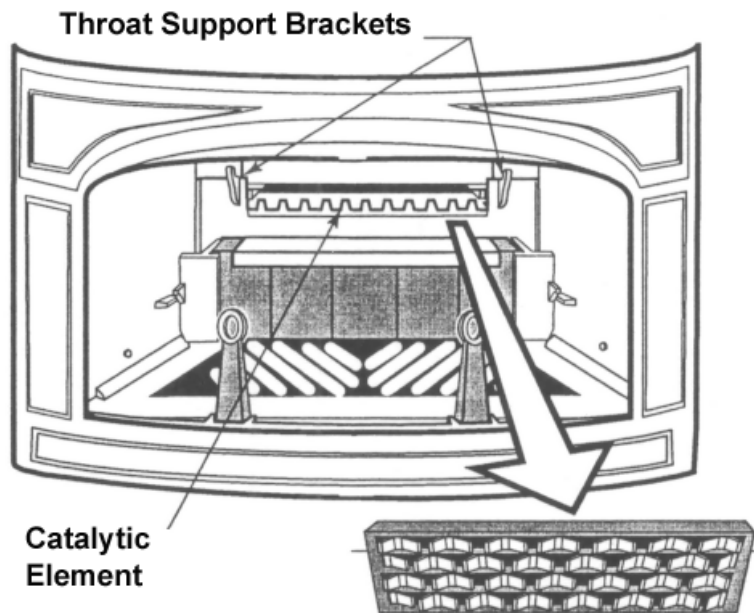

Fig. 1 Remove Throat Baffle
3. Remove the throat baffle by lifting straight up and disengaging the support brackets on the lower fireback. Take it out of the stove. See Fig. 1